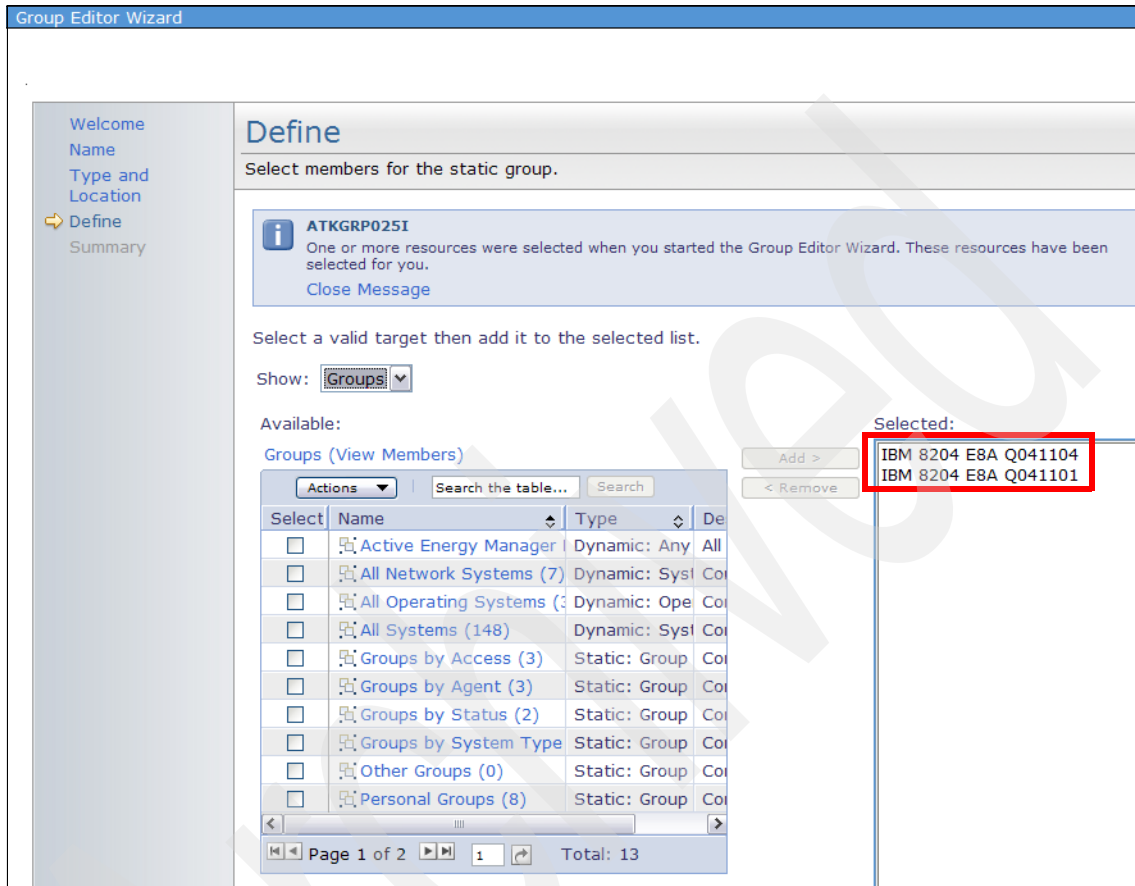

Figure 6-17 Creating a resource group - 4
- The wizard shows the resources that you preselected when you began, as highlighted in Figure 6-17. Click **Next**.